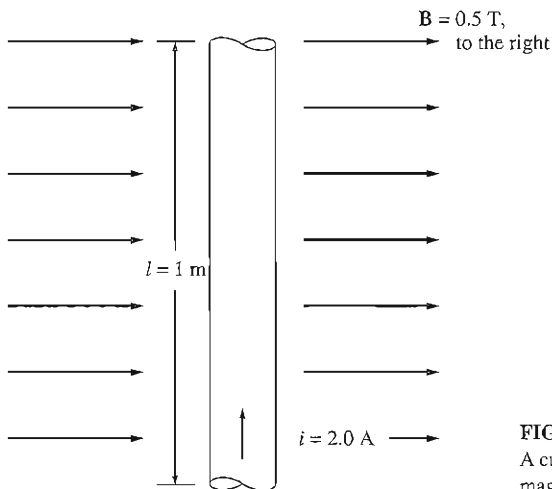

FIGURE P1-6
- 1-9. A wire is shown in Figure P1-6 that is carrying 2.0 A in the presence of a magnetic field. Calculate the magnitude and direction of the force induced on the wire.